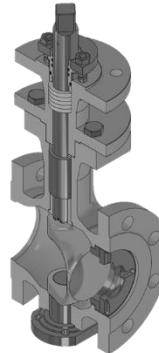

Fig. 6: 82.7-02-IT1
- **Insulating section IT1** - High and low temperature extension: -40 to -100 °C und 350 to 500 °C (Fig. 6)